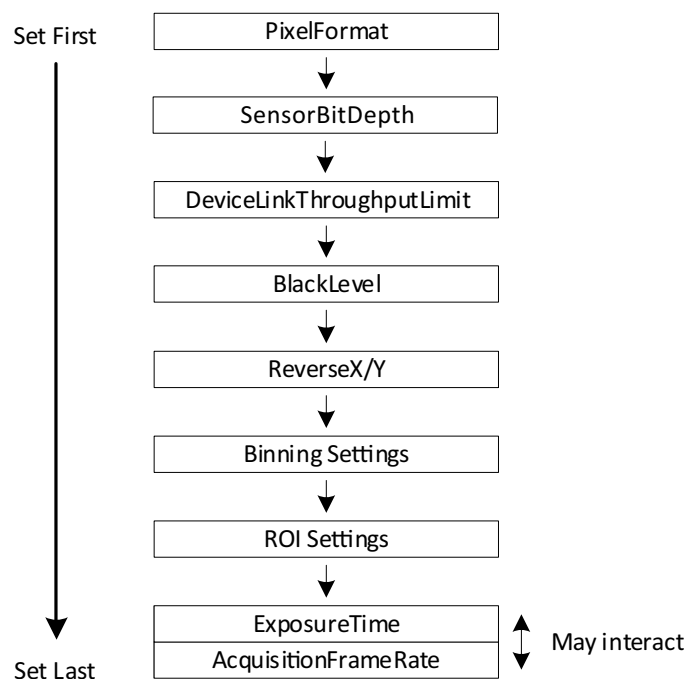

Figure 128: Interdependencies between features
The conversion between time and clock cycles affects control values. Features for pixel format, bandwidth, ROI, exposure time, and triggering are related to each other. Changing values for one feature can change values for another feature. For example, frame rates can be reduced when **PixelFormat** is changed subsequently. Figure 128 shows the interdependencies.
- To avoid readjustments, apply settings in the order shown in Figure 128.